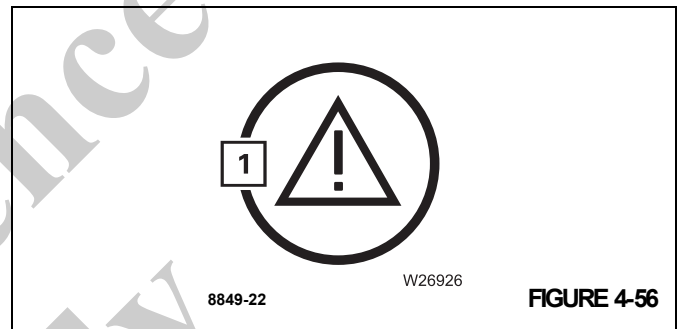

FIGURE 4-56
If an error is present, a symbol (1), (Figure 4-56) is shown. Refer to *Display in the Event of Errors*, page 4-59.